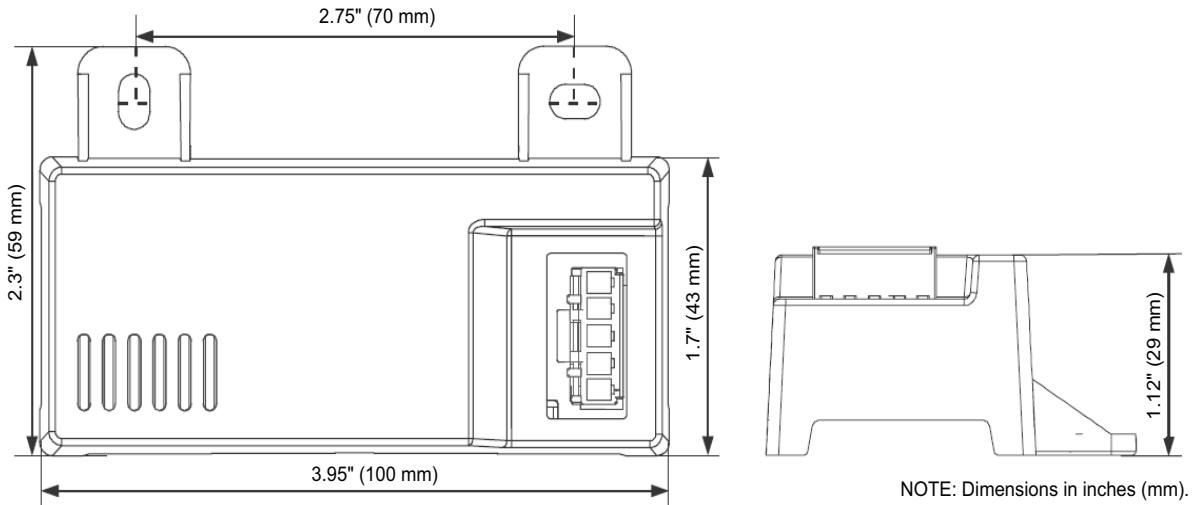
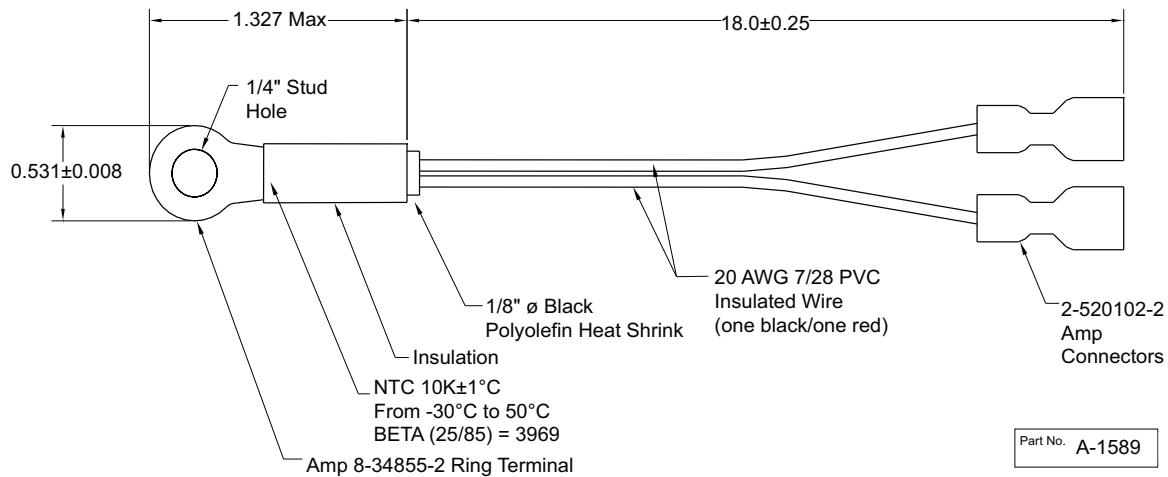
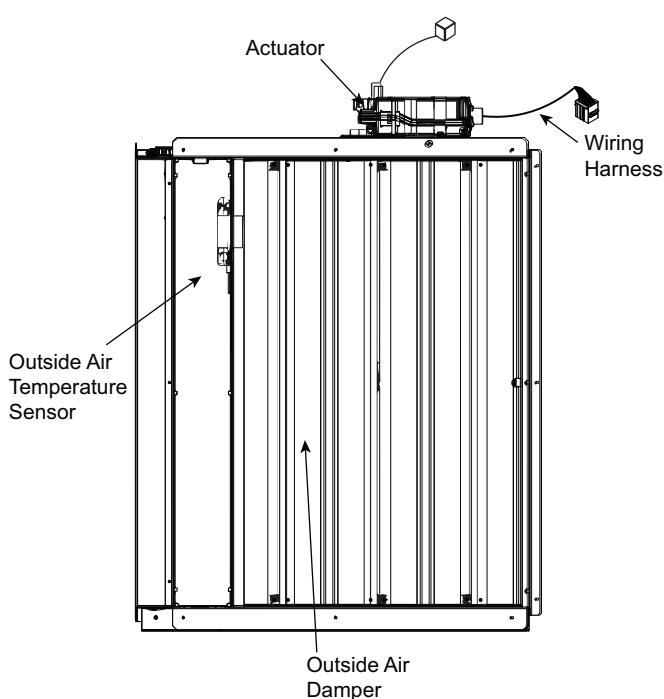

Fig. 71 — HH57LW001 Dimensional, Connection and Switching Information
Fig. 72 — HH79NZ039 Dry Bulb and Mixed Air Sensor Wiring
Fig. 73 — EconomizerONE Component Locations (CRECOMZR108A00 Shown)
When using the HH57LW001 enthalpy sensor (see Fig. 71) for outside air changeover, the existing HH79NZ039 dry bulb sensor (see Fig. 72) must be removed. The enthalpy sensor will be mounted in the same location as the dry bulb sensor (see Fig. 73). When the enthalpy sensor's OA (Outside Air) temperature, enthalpy, and dew point are below their respective setpoints, the outside air can be used for free cooling. When any of these are above the setpoint, free cooling will not be available. Enthalpy setpoints are configurable and create an enthalpy boundary according to the user's input. For additional details, see Fig. 74-75 and Table 30.
The optional enthalpy control sensor (P/N: HH57LW001) communicates with the POL224 economizer controller using the 5-wire harness, 48TC005213. The HH57LW001 sensor can be used as a single outside air enthalpy, a differential return enthalpy, or a differential return temperature sensor. Refer to the base unit control wiring diagrams found earlier in this book to wire the HH57LW001 enthalpy sensor for each option. Use Fig. 71 and Table 32 on page 58 to locate the wiring terminals for each enthalpy control sensor.
Economizers are shipped standard with an HH79NZ039 outside air dry bulb sensor (see Fig. 72). System default setting (high temp limit) is 63°F (17°C) and has a range of 48°F to 80°F (9°C to 27°C). Sensor is factory installed on economizer.
If installing the optional HH57LW001 enthalpy sensor, the HH79NZ039 dry bulb outside air sensor must first be removed. Wire sensor to harness 48TC005213 and the (5) wires from the harness to the EconomizerONE harness in the return air chamber. Harness 48TC005213 has a 5-pin plug that connects directly to the HH57LW001 enthalpy sensor. Refer to the base unit control wiring diagrams earlier in this book for wiring connections. Refer to Fig. 71 and Table 32.